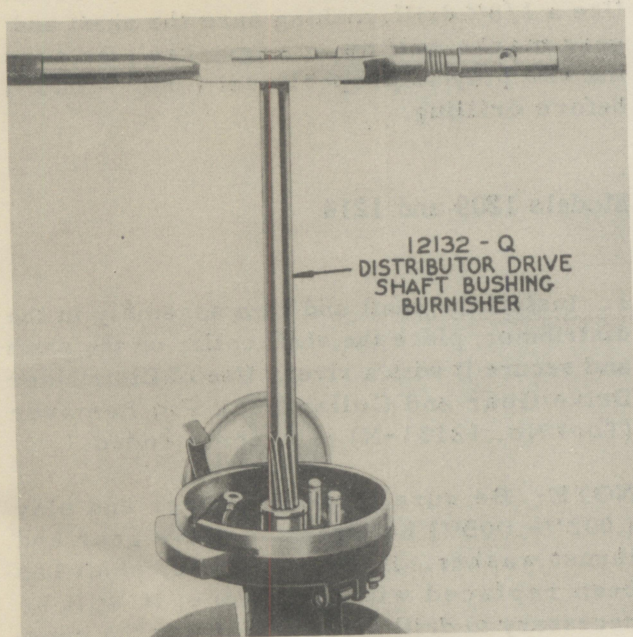

Fig. 11
1. Size the bushings with a Distributor Drive Shaft Bushing Burnisher (Tool No. 12132-Q) (Fig. 11).